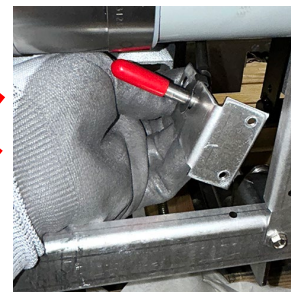

Figure 5
6. Pull the reset rod with bracket out and set aside (see Figure 5).